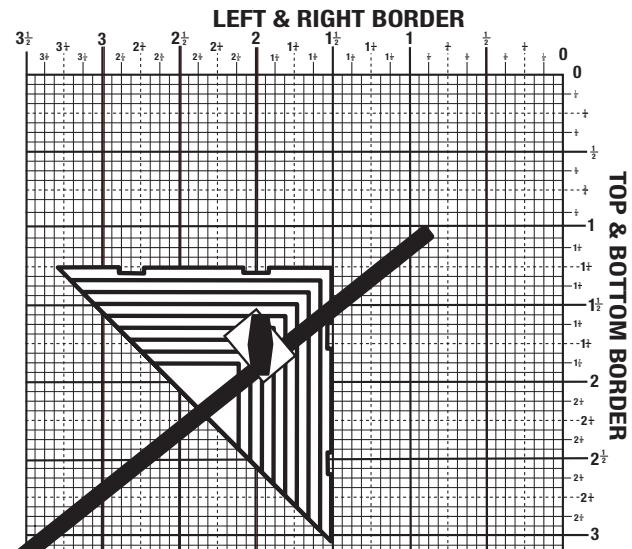

Fig.10
Step 6 – For the top and bottom borders trace the horizontal edge of Triangle B to the scale on the right side of the Border Guide. Write down this measurement. *Note the scale on the Border Guide is $1\frac{1}{2}'' = 1/2''$. Simply read the scale measurements as they are indicated on the Border Guide. (Fig. 10)